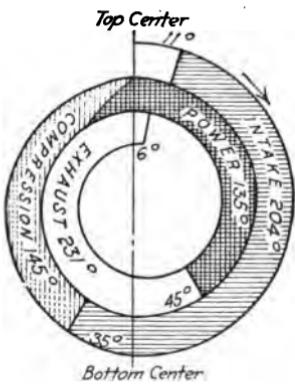

FIG. 68.—Valve timing of the average engine.
7. How does this timing of the Ford compare with the timing of the average automobile engine? See valve-timing diagram, Fig. 68. Make a corresponding diagram for the Ford engine.